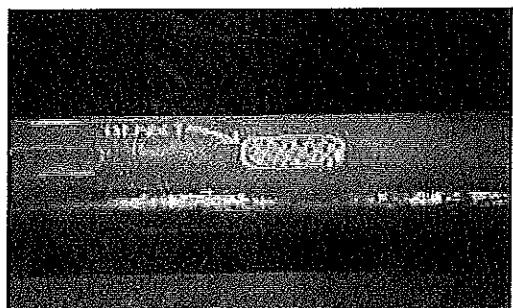

Figure 2
- 4.3 Prepare pipe surface for repair by removing any pipe coating, corrosion residue, primer or adhesive, allowing 4 – 6 inches (102 – 152 mm) of prepared pipe on each side of the area to be sleeved (Figure 2). The pipe surface should conform to NACE # 3 standards or equivalent. Wipe the repair area with